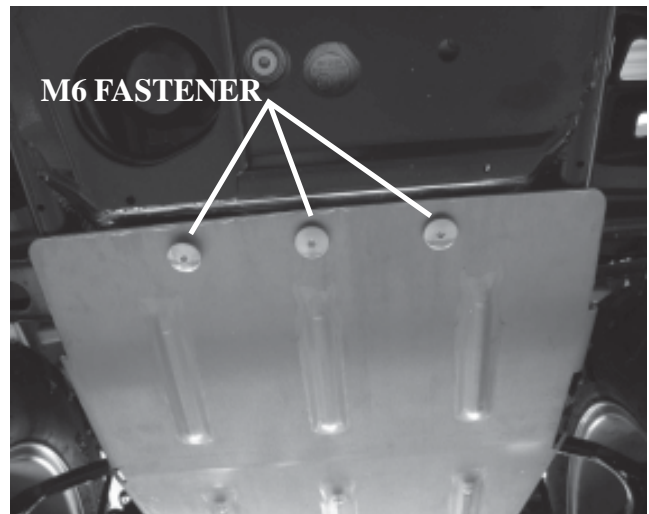

Figure 7
- Place the rear skid plate into position and attach the bottom of the skid plate with 3, M6-1.0 flange head torx screws (B2), figure 7